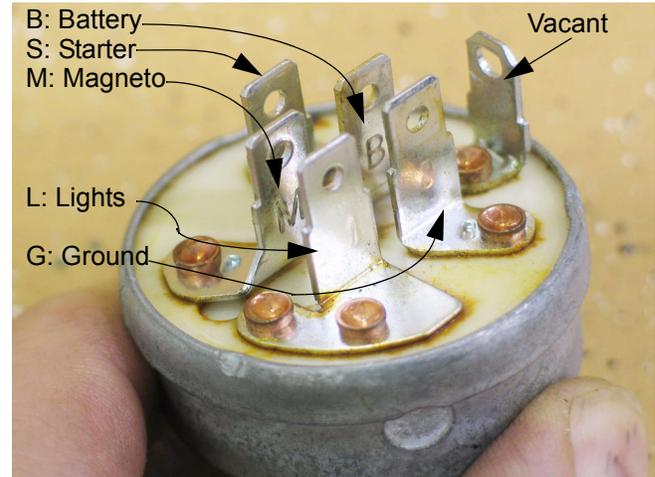

Figure 28.3
28.3. The key switch internal contacts are as follows: See Figure 28.3.